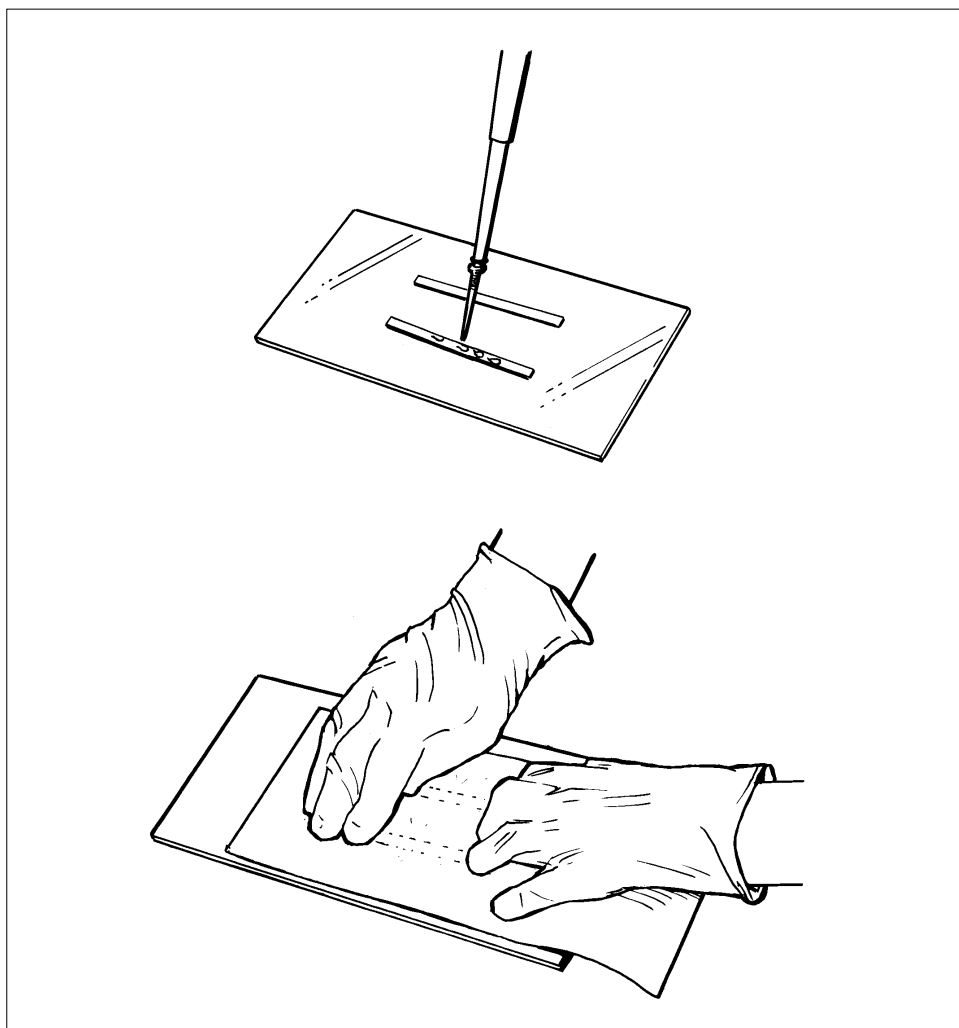

Fig. 9.
- Place IEF Electrode Strips onto a clean flat surface (a glass plate works well) and soak each one with 0.5ml dH₂O. Remove excess water by blotting with tissue paper (Fig. 9).